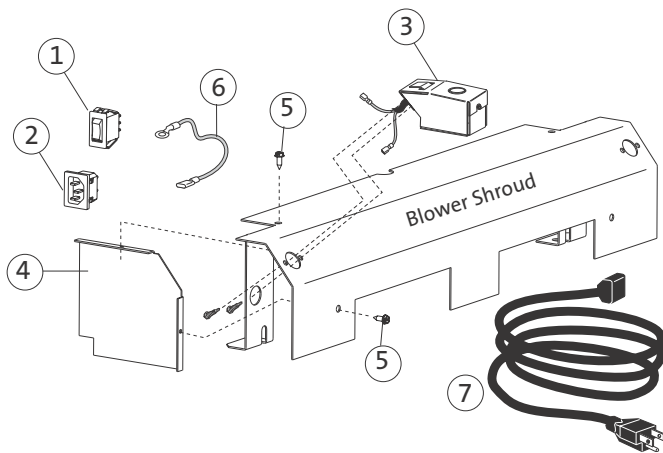

Figure 13. Blower hardware contents and orientation.
The blower is fully assembled, except for the wire harness connections which depend on what side you wish the power cord to be routed. The power receptacle, control switch, and snapstat assembly must all be installed on the same side. See fig. 13 for part orientation.
7. Install Snapstat Assembly: Remove the snapstat knock-out from the same side of the Blower Shroud. Run the snapstat leads through that hole and attach the bracket to the Shroud using two #8 x 1/2" sheet metal screws. The clearance hole in the shroud leg is for screwdriver access. See fig. 13.
8. Attach the Air Deflector: Using the two remaining #8 sheet metal screws, attach the Air Deflector to the Blower Shroud on the same side as the snapstat is installed. See fig. 13, parts 4 and 5.